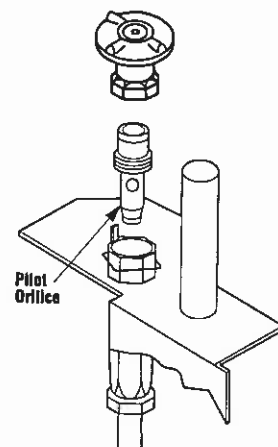

Figure 26
Step 7. Refer to *Figure 26* and remove the pilot hood assembly to access the hexed pilot orifice. Remove and replace the orifice with the one provided with the kit.